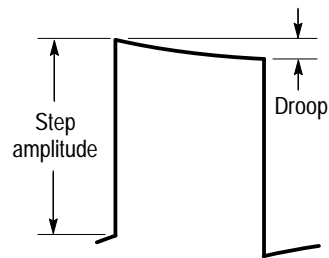

Figure 5: Step amplitude and droop
3. The percent droop is the magnitude of the droop divided by the step amplitude (see Figure 5). Divide this number by 5 to obtain the droop per 700 ns.